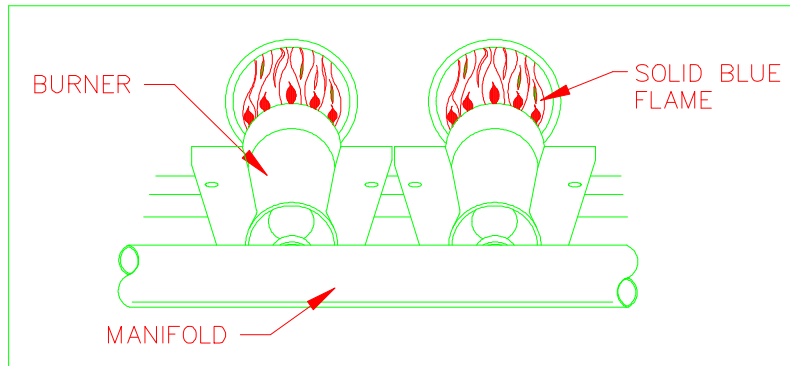

Figure 5.
4. Return Air Duct Connection: Check to see if it is (1) physically sound; (2) sealed to the furnace casing; and (3) terminates outside the space containing the furnace.
8. Make sure the burner flames are in good adjustment (See Figure 5). Burner flames should not impinge or fire against the side of the tube opening.